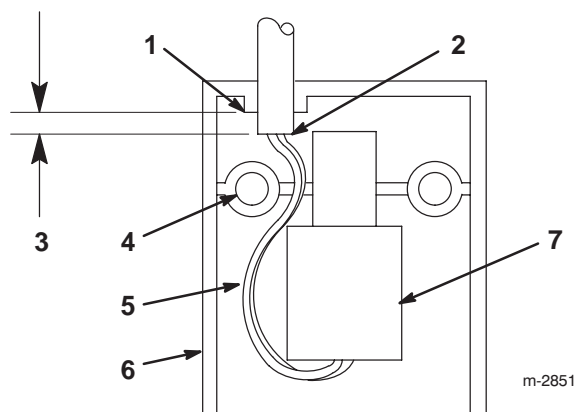

Figure 9
8. Ensure that the end of the outer insulation is at least 3/16 in. (5 mm) from the inside edge of the serrated cord opening in the switch housing base (Fig. 9).